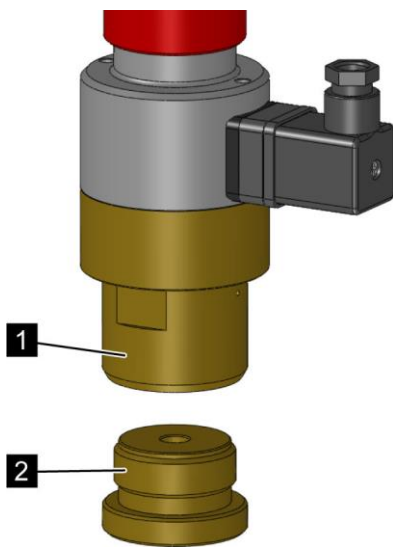

Fig. 88: Resetting the release pin
7. ➤ Screw the screw reset tool (Fig. 88/2) onto the electrical release device (Fig. 88/1) by hand until the stop.